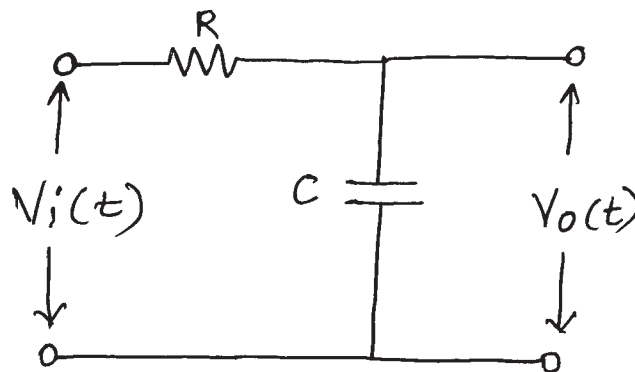

Fig. No. 1
- c) Derive the transfer function of the given electrical circuit below (**Fig. No. 1**):